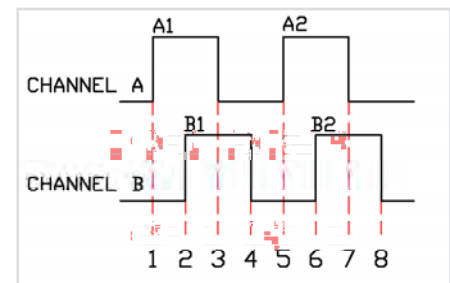

Figure 3. Quadrature encoder and quadrature counting.
- Two channels in quadrature, often referred to as a quadrature encoder (Figure 3)
A quadrature encoder (see Figure 3) has two channels, typically referred to as channel A and channel B. Each channel of the quadrature encoder will have the same number of pulses per revolution offset by 90° electrical. A standard Accu-Coder™ encoder will have channel “A” lead channel “B” for clockwise shaft rotation. This quadrature relationship provides directional information to the receiving device. Many receiving devices also have the capability of using a quadrature encoder’s signals to perform edge counting to increase the resolution two or four times, sometimes called quadrature counting. This can increase the effective system resolution by up to four times.